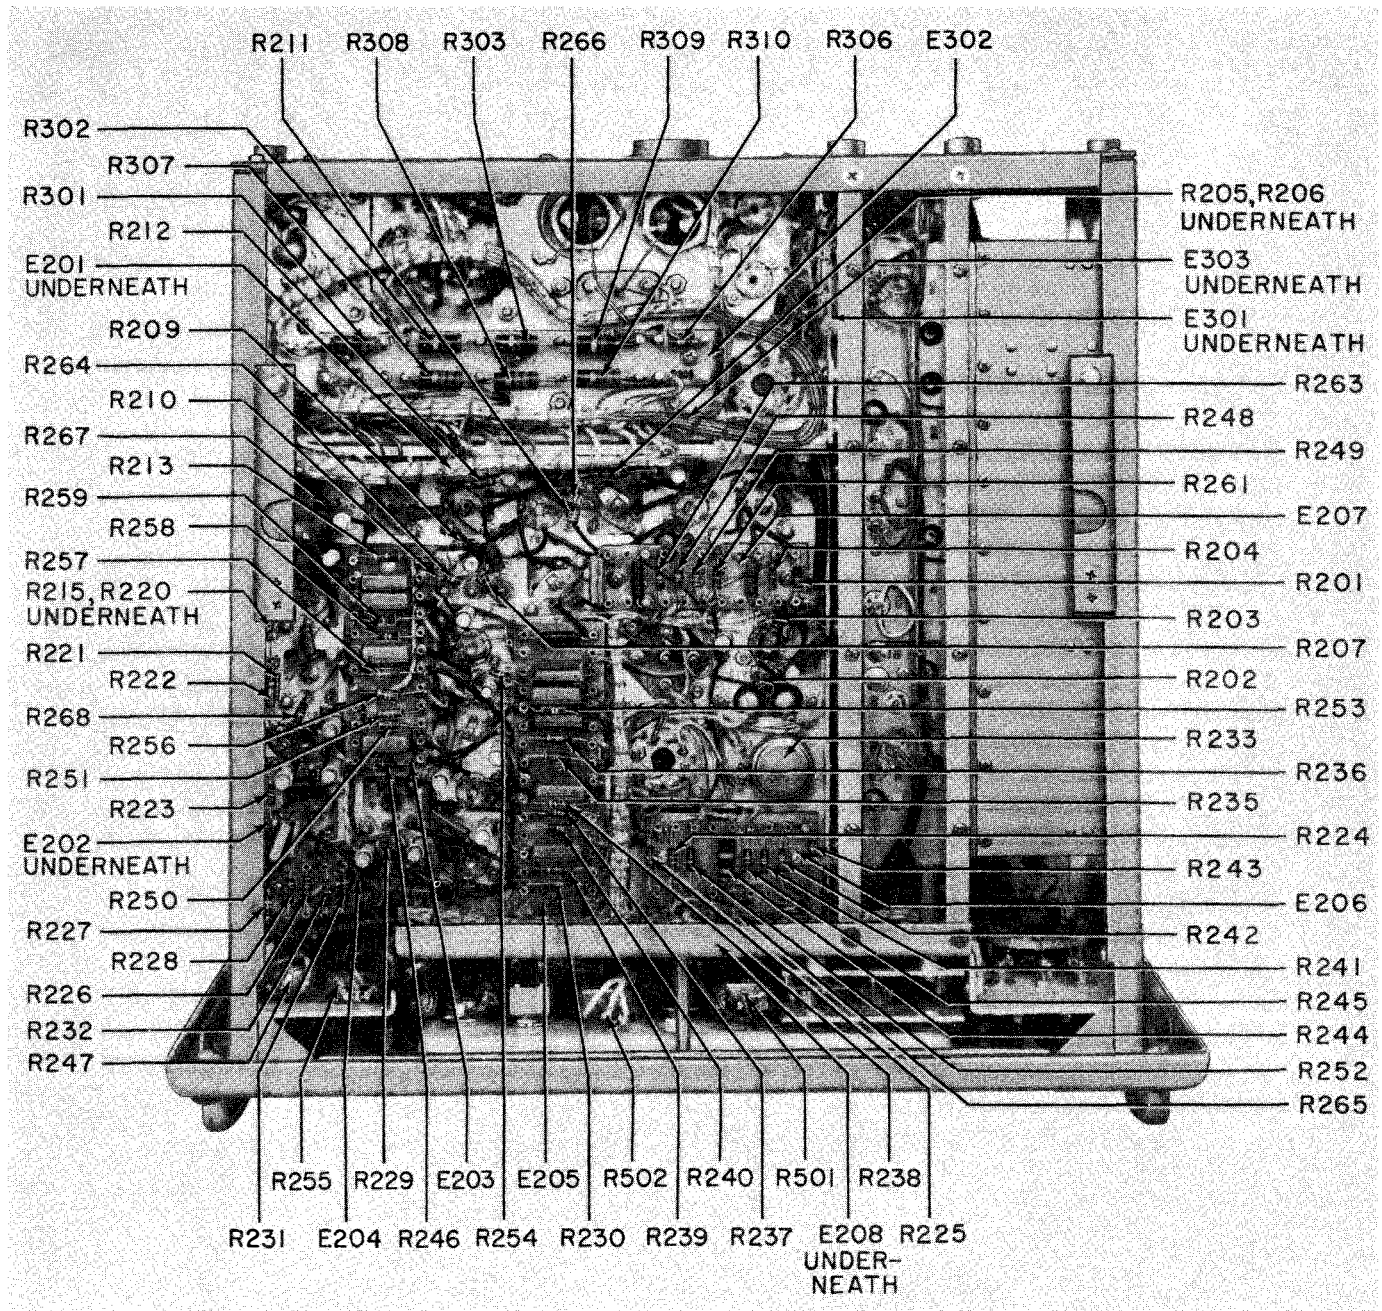

Figure 7-14. Radio Receiver R-482A/URR-35, Bottom View—Identification of All Resistors and Terminal Boards
(2) Disconnect the blower bracket from the power supply sub-panel by removal of three screws.
(3) Unsolder the incoming power lead at capacitor C304.
(4) Unsolder motor leads 1 and 4 from terminal board E302; see figures 7-14 and 7-30.
(5) Remove the subassembly comprising the blower, bracket and capacitor C304.
(6) If a new blower is to be installed in place of the one in the equipment, transfer the bracket and the capacitor to the new part and reverse the above procedure.
(a) Unsolder, at terminal board E301 (see figure 7-14), those leads which run from the preselector to the terminal board. Tag each terminal to indicate which lead (of the original assembly or of a substitute assembly) is to be reconnected to it.
(h) On the bottom of the chassis (see figure 7-14), note two similar rails holding the preselector in place. Detach both rails from the rear panel and front-panel assembly, as outlined in step (g). Also remove two screws securing the preselector to the bracket on the power supply chassis.